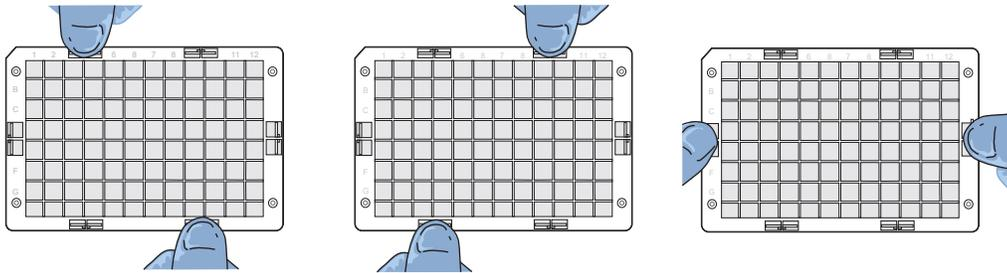

Figure 22 Clamping verification steps.
5. Verify the plate clamping step to ensure that the array plate is securely fastened to the hybridization tray. Remove the plate stack from the drawer and place on a bench top. Using your thumbs, press the array plate downward following the positions that are specified in Figure 22. *No clicking sound indicates proper clamping.*